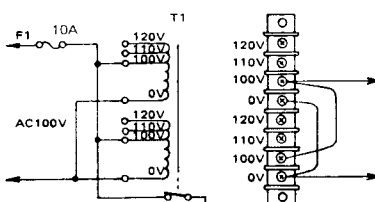

Figure 6.2 Connection for AC100V
- (3) Change the wiring of the transformer tap as shown in Figures 6.2 through 6.8.
- (4) When changing from the 100V-system to the 200V-system or vice versa, also change the capaci-